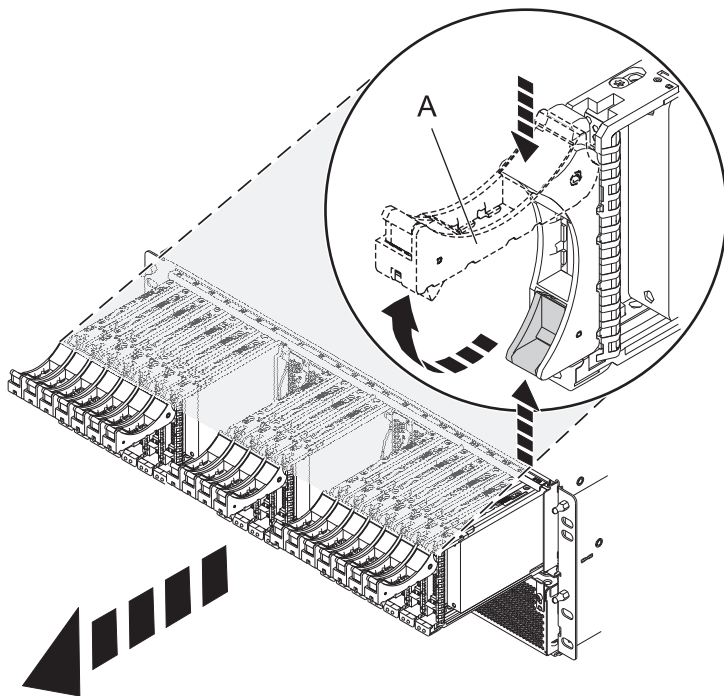

Figure 140. Removing the disk drives from the backplane
3. Remove the disk drives and fillers as shown in Figure 140.
- a. Squeeze the latch of the disk drive and pull the handle (A) toward you to release the disk drive.